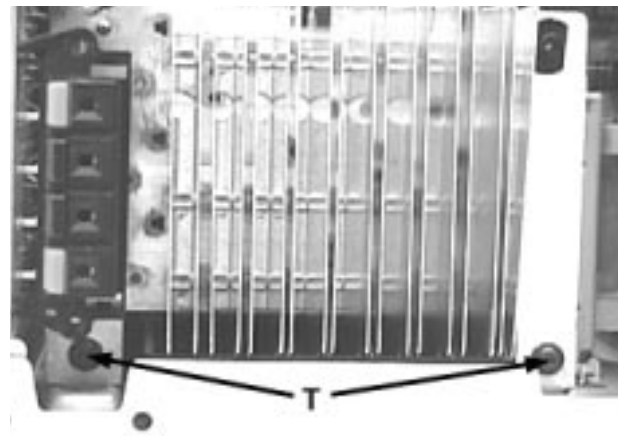

Figure 16
- 1) Loosen 2 screws T as shown in Figure 16 to remove the Combi & Regulator boards assembly (pos 1101-1001 & pos 1101-1003).